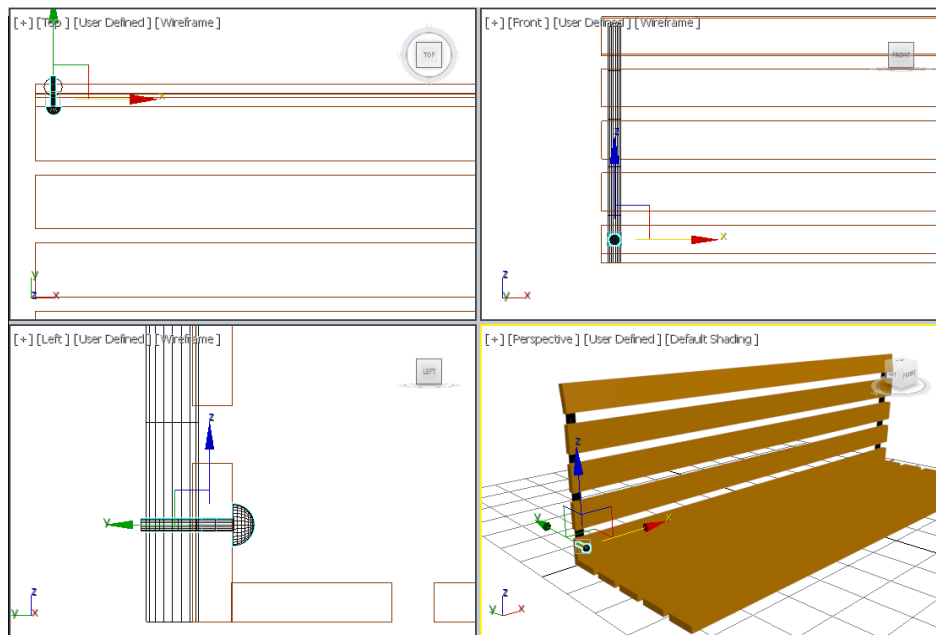

Figure 2-81 Alignment of rivet001 with horizontal back support
3. Choose the **Select and Move** tool and align *rivet001* with *horizontal back support* in the viewports, as shown in Figure 2-81.